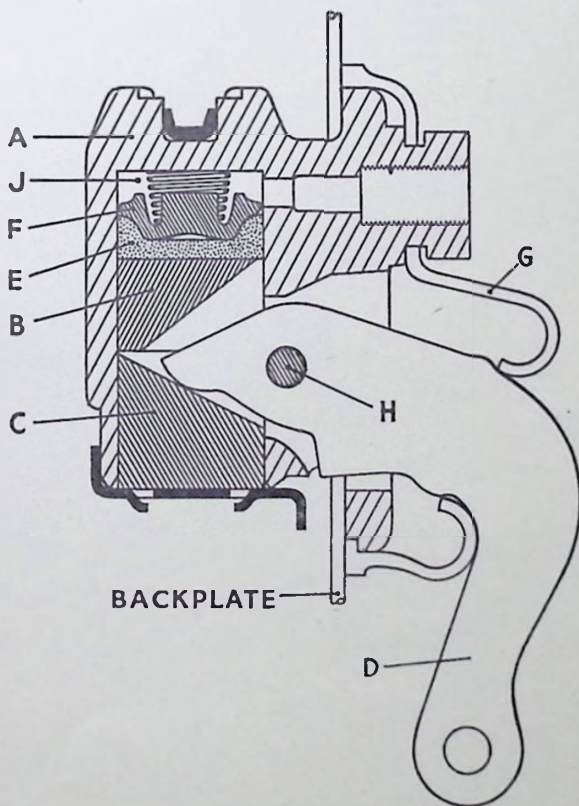

Fig. 1. Exploded view of Rear Wheel Cylinder fitted to later Productions.
The wheel cylinder (A), see Fig. 1, contains a single piston split in two, the inner piston (B) being hydraulically operated while the outer piston (C) is manually operated by the handbrake lever (D). A rubber cup (E) mounting a cup filler (F) is loaded upon the inner piston by a spring (J). When operated hydraulically the inner piston butts against the outer piston, leaving the handbrake lever (D) undisturbed, and applies a thrust to the tip of the leading shoe through the dust cover, the "Micram" adjuster and mask. When operated manually, an inwards movement of the handbrake lever brings the heel of the lever into contact with the outer piston (C) thrusting it outwards against the leading shoe without disturbing the inner piston. A rubber boot (G) is fitted to prevent the ingress of foreign matter.